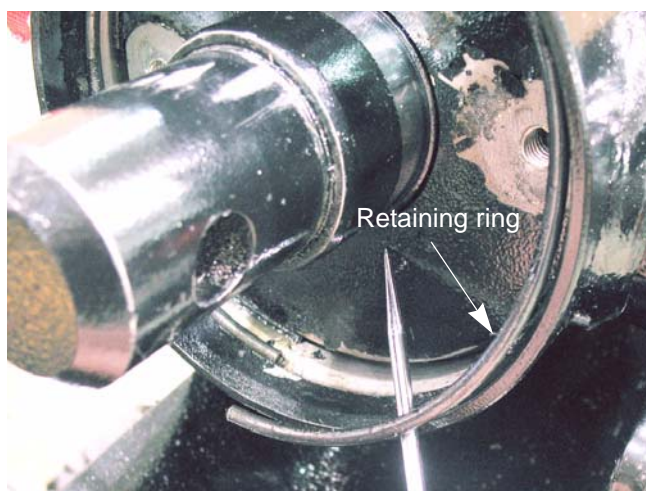

Figure 5.14
21. Remove the retaining ring. See Figure 5.14.